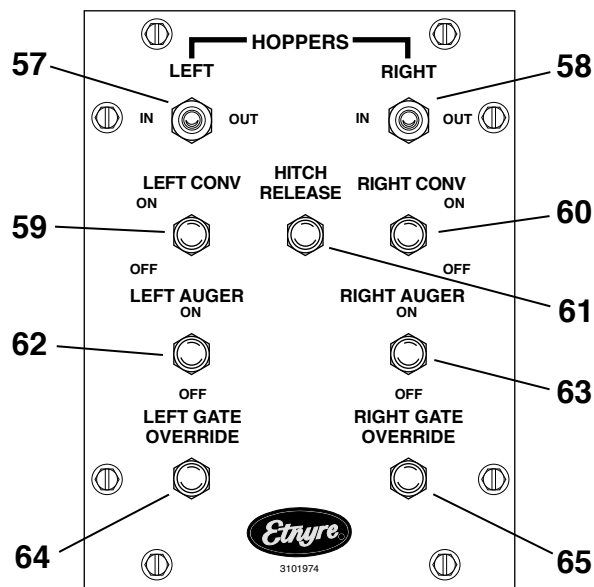

Figure 7. Front Operator's Control Panel
Items 57 thru 65 are located in the front operator's control box (figure 7)
57. Left Hopper Switch (Figure 7)
58. Right Hopper Switch (Figure 7)
59. Left Conveyor Pushbutton (Figure 7)
60. Right Conveyor Pushbutton (Figure 7)
61. Hitch Release Pushbutton (Figure 7)
62. Left Auger Pushbutton (Figure 7)
63. Right Auger Pushbutton (Figure 7)
64. Left Gate Override Switch (Figure 7)
65. Right Gate Override Switch (Figure 7)